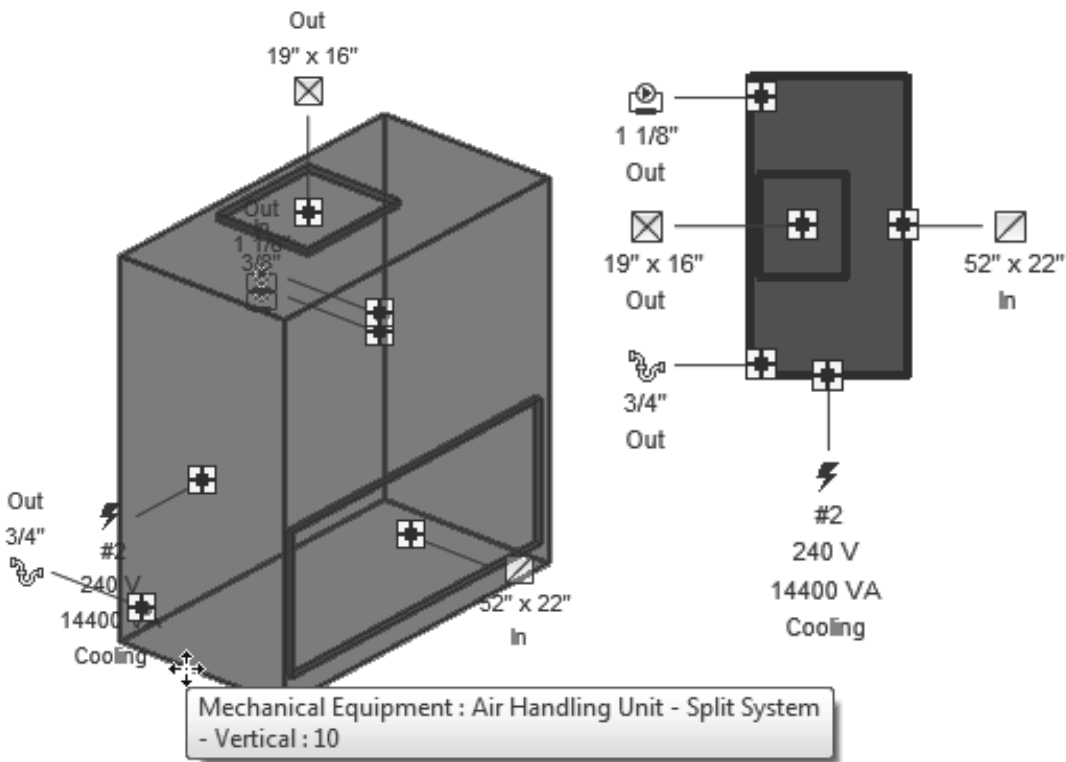

Figure 2–11
- Take time to get to know the components that come with the Autodesk Revit software. Their most critical content are the connectors, as you see in for a piece of mechanical equipment in Figure 2–11.